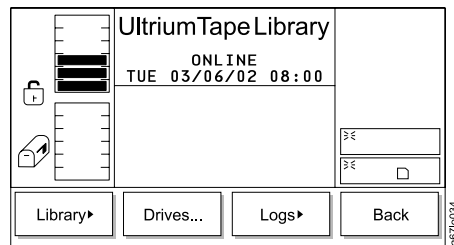

Figure 95. Status Menu
1. From the Main Menu's initial screen, press the button below the **Status** softkey. The Status Menu displays (see Figure 95).